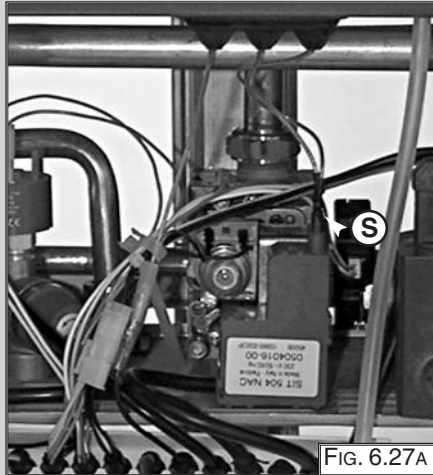

FIG. 6.27A
1. Disconnect ignition leads "S" by pulling upward (FIG. 6.27A);